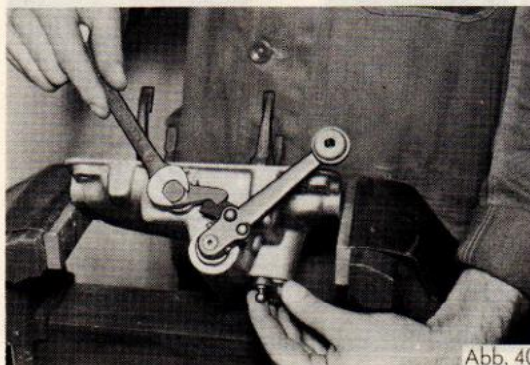

Abb. 40
31. Adjust selector finger. To do this, the eccentric ratchet spindle is turned so that the selector finger is aligned exactly between the two blocks of the sliding lock plate (Fig.40). Hold the finger in this position by moving the lock plate sideways, so that it is exactly in the slots of the selector forks.